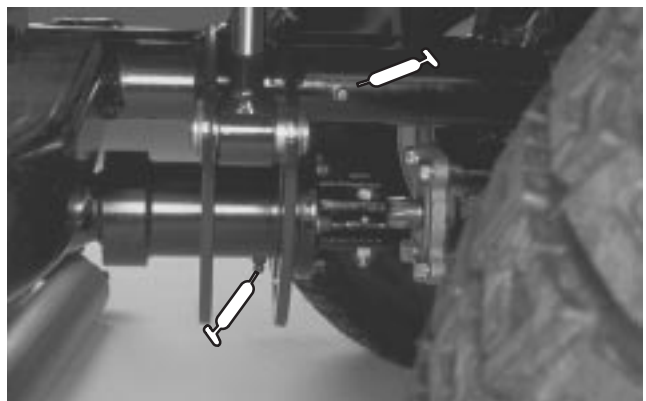

Figure 37
- Rear lift arm pivots (2), Drive shaft clutch (1) (Fig. 37)